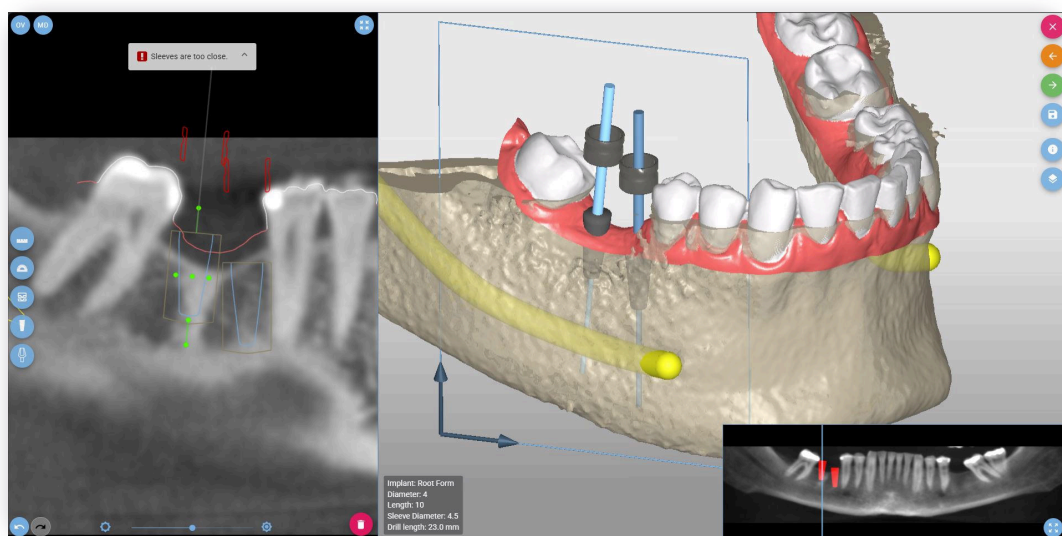
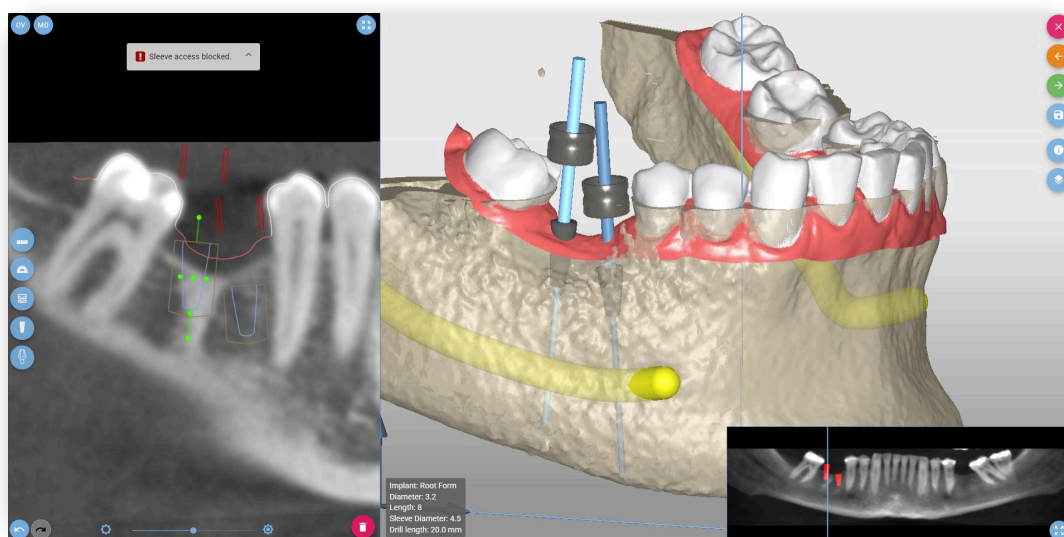

Figure 52: The guiding sleeves are in too close.
Figure 53: The guiding sleeves access blocked.
- The guiding sleeves are in a conflicting position. A typical cause is that the sleeves are planned in a way that they occupy overlapping positions. This, again, renders manufacturing physically impossible (Figure 52, Figure 53).